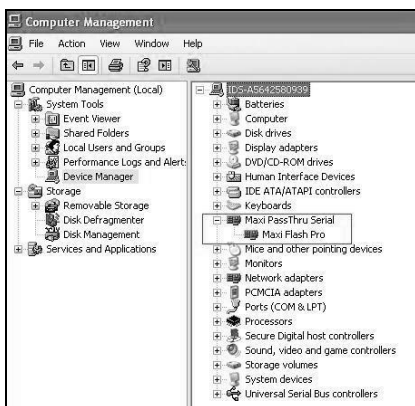

Figure 3.1
- 8) When the MaxiFlash Pro device driver program is successfully installed, you should be able to see the “Maxi Flash Pro” entry in the Device Manager under “Maxi Pass Thru Serial”. (Figure 3.1)